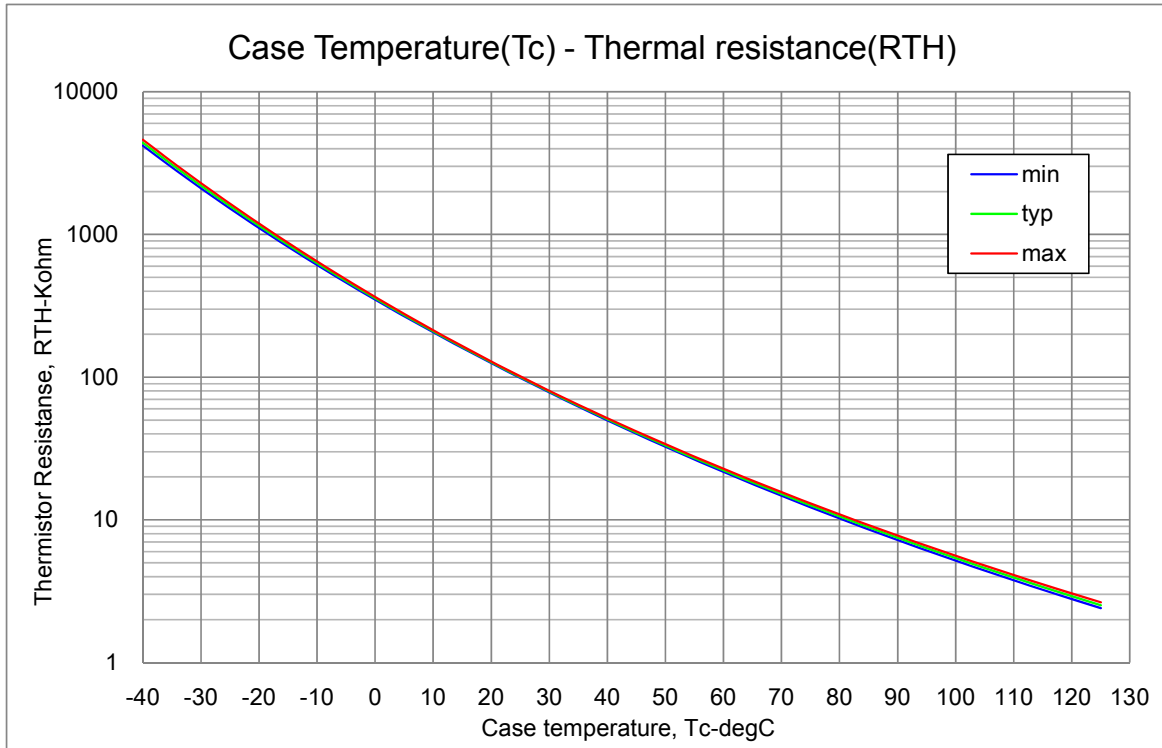

Fig.10 Variation of thermistor resistance with temperature
- Inside the IPM, a thermistor used as the temperature monitor for internal substrate is connected between VSS terminal and VTH terminal, therefore, an external pull up resistor connected between the TH terminal and an external power supply should be used. The temperature monitor example application is as follows, please refer the Fig.10 and below.